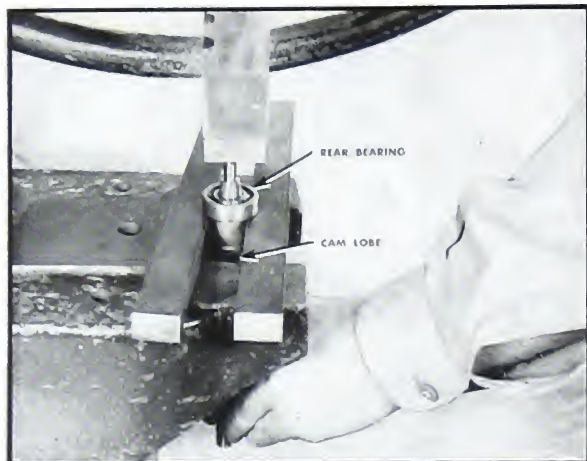

Fig. 5-306. Removing rear ball bearing
5. To replace the rear ball bearing, press off with arbor press. Fig. 5-306.